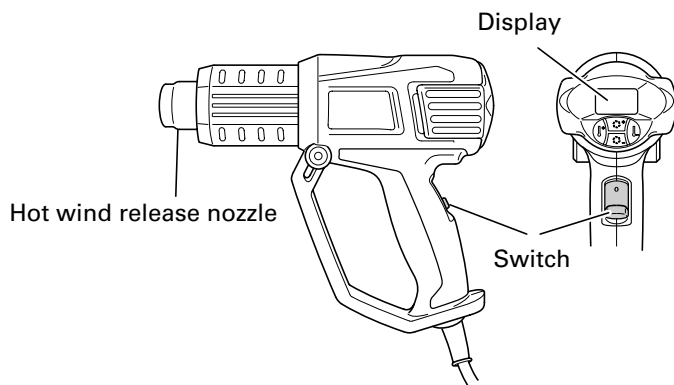
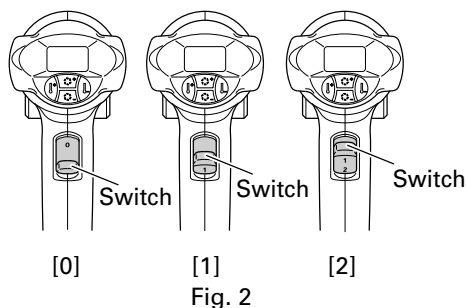
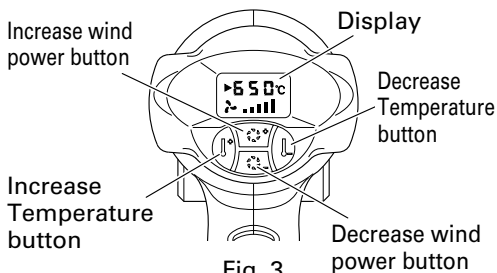

Fig. 1
Fig. 2
Fig. 3
1. **Switch Operations and Temperature Adjustments (Fig.1, 2)**
2. Adjusting the Temperature (Fig.1, Fig. 2, Fig. 3)
3. Wind Power Adjustment (Fig.1, Fig. 3)